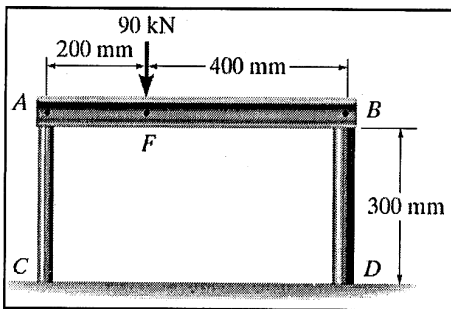

Fig. Q1
**Q1.** Rigid beam  $AB$  rests on the two short posts shown in **Fig. Q1**.  $AC$  is made of steel ( $E_{st} = 200$  GPa) and has a diameter of 20 mm, and  $BD$  is made of aluminium ( $E_{al} = 70$  GPa) and has a diameter of 40 mm. Determine the displacement of point  $F$  on  $AB$  if a vertical load of 90 kN is applied over this point.